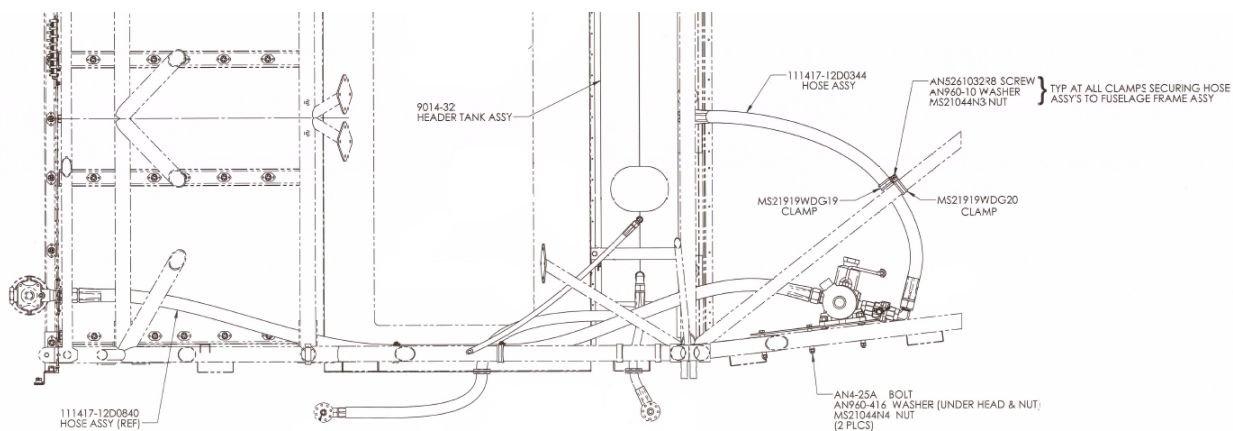

Figure 1
(Reference Figures 1 & 2)
5. Install hose between pump and header tank. (Reference Figure 1)
(Reference Figures 1 & 3)